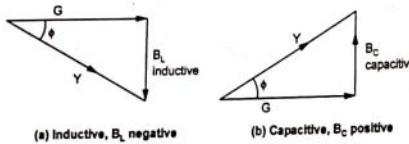

Fig. 3.8.3 Admittance triangles
**Susceptance (B) :**
- The sides of the triangle representing the conductance, susceptance and admittance of the circuit, it is known as admittance triangle. Fig. 3.8.3 shows such admittance triangles.